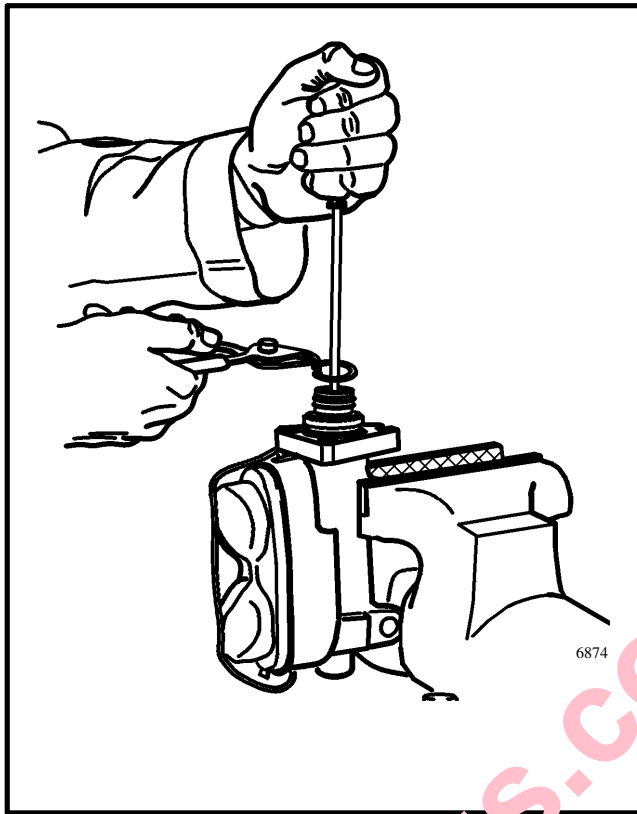

FIGURE 2. REMOVE THE FITTING
3. Put the master cylinder in a vise with soft jaws as shown in FIGURE 2.